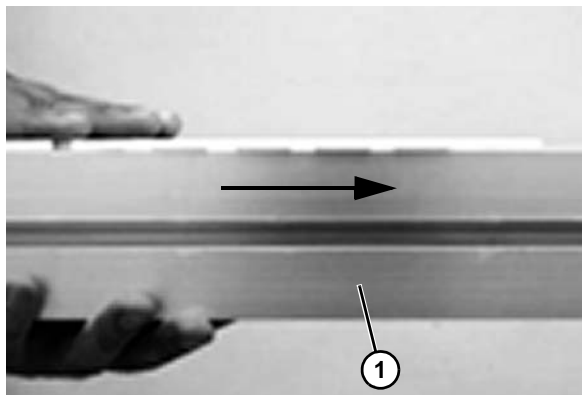

Figure 55
2. Feed the chain along the conveyor (**Figure 55, item 1**) by pulling it through the idler unit and back to the drive unit.